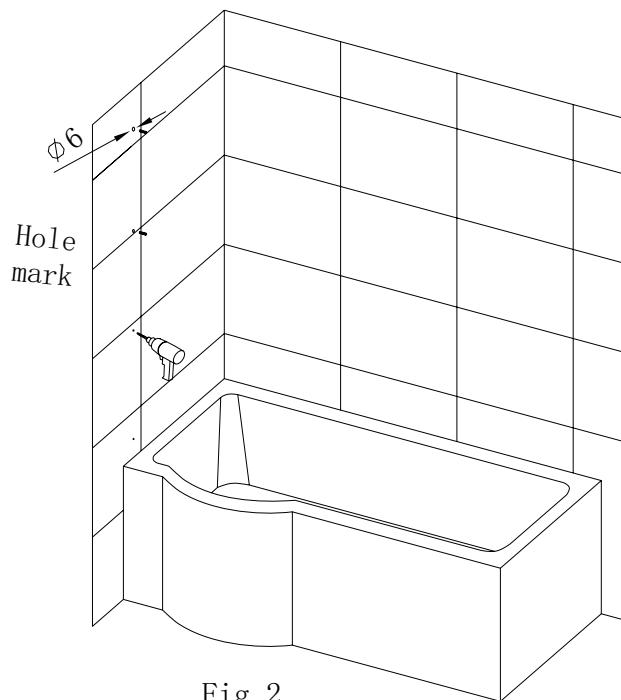

Fig. 2
- 2) Drilling the holes) 4-- $\phi 6\text{mm}$ (according the mark ,insert the plastic plug into the hoes .As Fig.2 .